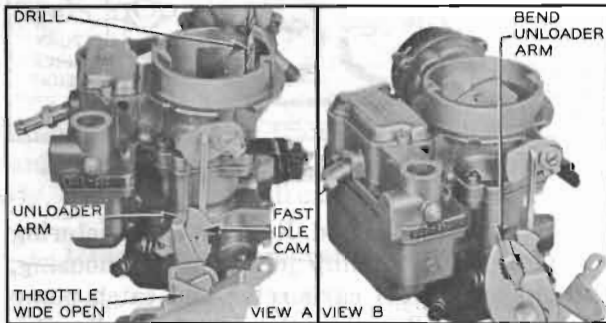

Figure 3-28—Choke Unloader Adjustment
3. Hold choke closed lightly. Fully open throttle, forcing choke valve open. Then check clearance between upper edge of choke valve and wall of air horn using a $\frac{3}{16}$ " drill on a Dynaflo carburetor or a $\frac{1}{8}$ " drill on a synchromesh carburetor. See figure 3-28.